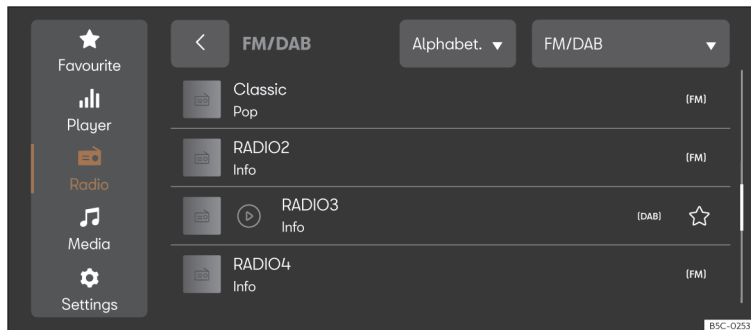

Fig. 174 Schematic representation: Radio view.
- Press **HOME** > > >>> **Fig. 174**.